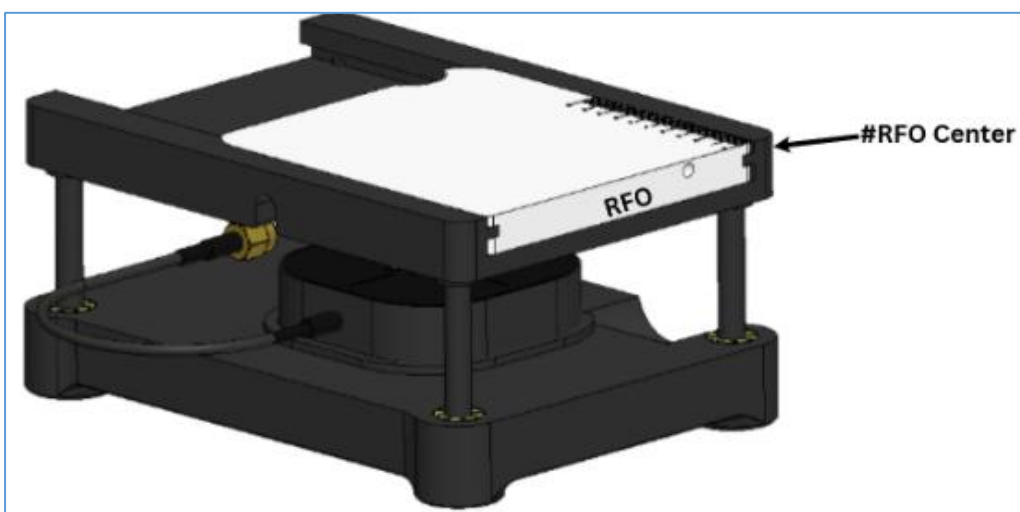

FIGURE 14.4: PLACEMENT OF RFO
3. Place the RFO at the required distance (in mm) from the center as shown in Figure 14.4 below.